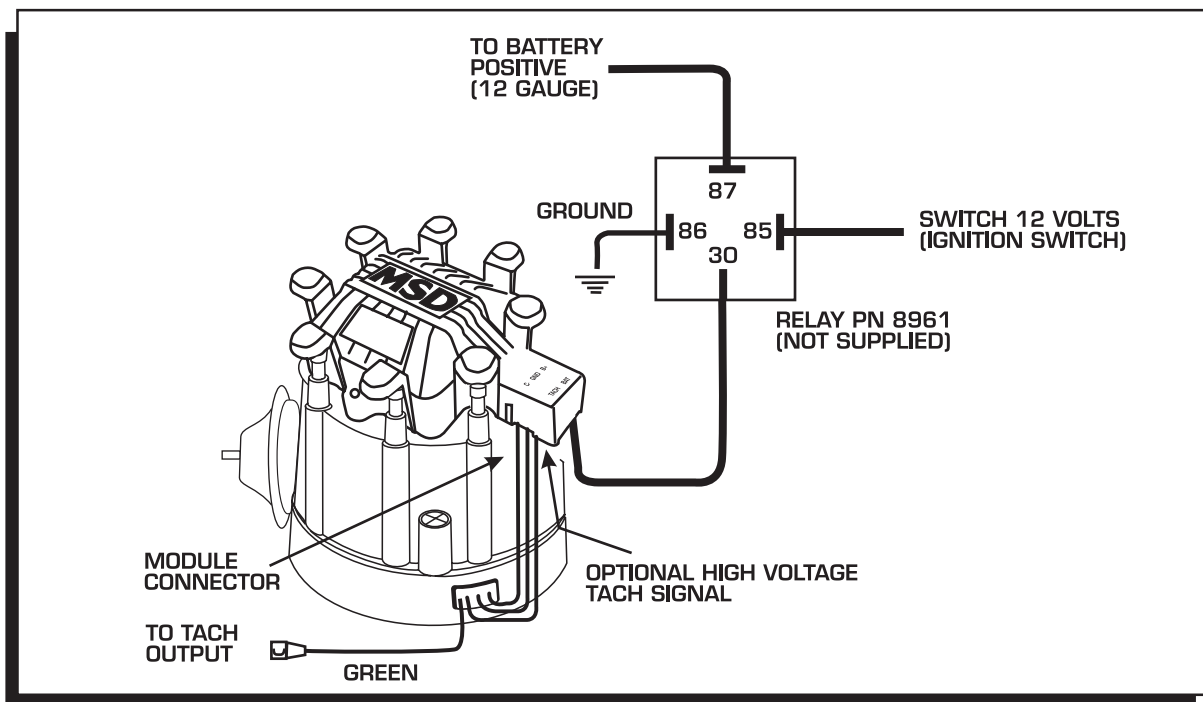

Figure 6 Connecting the Module and Tach Lead.
8. Connect the HEI Module harness to the Distributor Cap. See the Tachometer Wiring section before connecting your tachometer (Figure 6).
Note: The stock wiring will not be able to handle the voltage and energy demands of the new module. A relay, such as MSD PN 8961, must be used to handle the high current in order to retain the factory On/Off ignition switch (Figure 6).